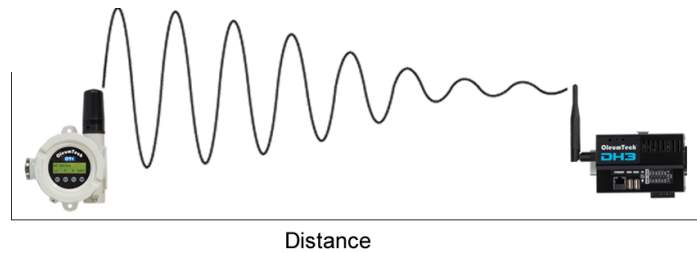

Figure 5. Attenuation
- 4 **Free Space Path Loss** – Just like our voices attenuate over distance (the further you get from someone the harder it is to hear them), as illustrated below in Figure 5, so does RF. Essentially, signal power is diminished by geometrically spreading of the waveform over distance.